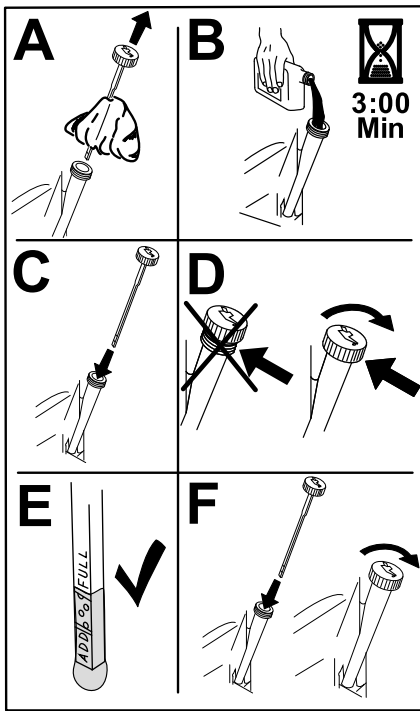

Figure 62
6. Slowly pour approximately 80% of the specified oil into the filler tube and slowly add the additional oil to bring it to the Full mark (Figure 62).